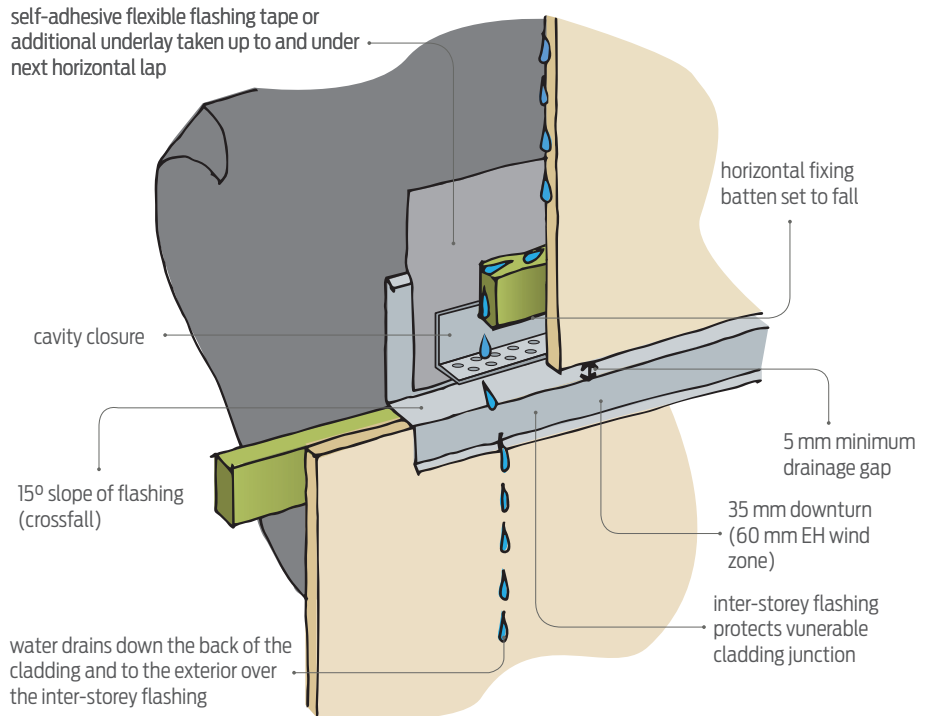

Figure 2: Inter-storey drainage is required for cavities over 2 storeys (or 7 m) high.
- a horizontal joint flashing - 5 mm (see Figure 2)